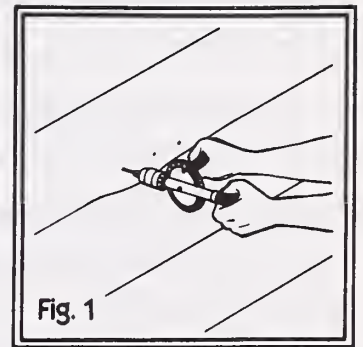

Fig. 1
1. Use screws, rather than nails, to straighten the warped board back in line. First, drill guide holes for the screws into the thicker portion of the board (fig.1). Then drill the larger holes to countersink the screws.